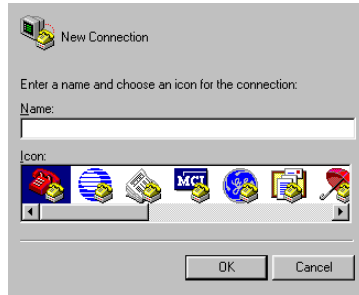

Figure 32: Connection Description dialog box
4. Choose **Start > Programs > Accessories > Communications > HyperTerminal**. The Connection Description dialog box displays, as shown in Figure 32.